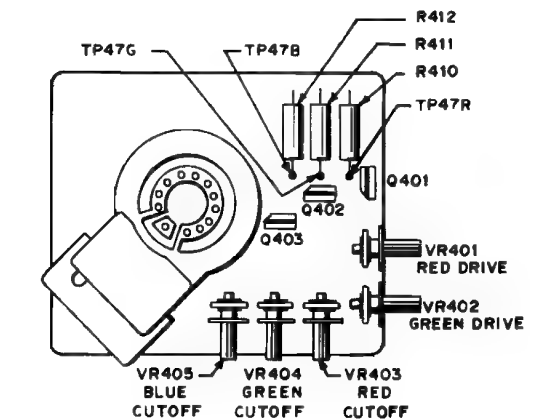

FIGURE 3
- 2.6 Turn the Green Cut off Control (VR404) on the Neck Board fully CW. (See Fig. 3)